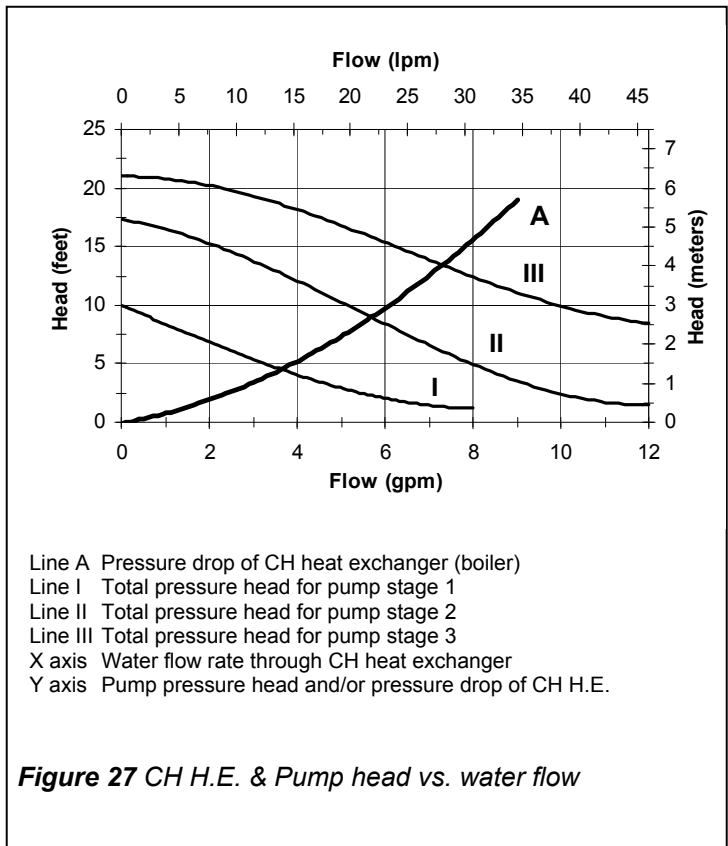

Figure 27 CH H.E. & Pump head vs. water flow
- Set the pump stage based on the selected CH operating input rating and pressure drop of the boiler heat exchanger. Figure 27 shows the relationship between pressure drop of CH heat exchanger and/or the total pressure head of pump and water flow rate through CH heat exchanger. The type Wilo Star S21 with three stages is equipped.